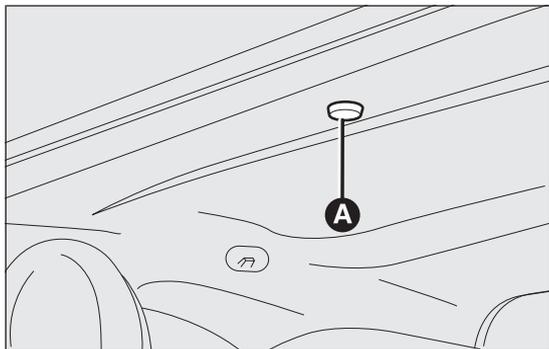

fig. 46
- for manual activation remove the protective cap A fig. 46 from its housing which is located on the internal covering behind the sun blind